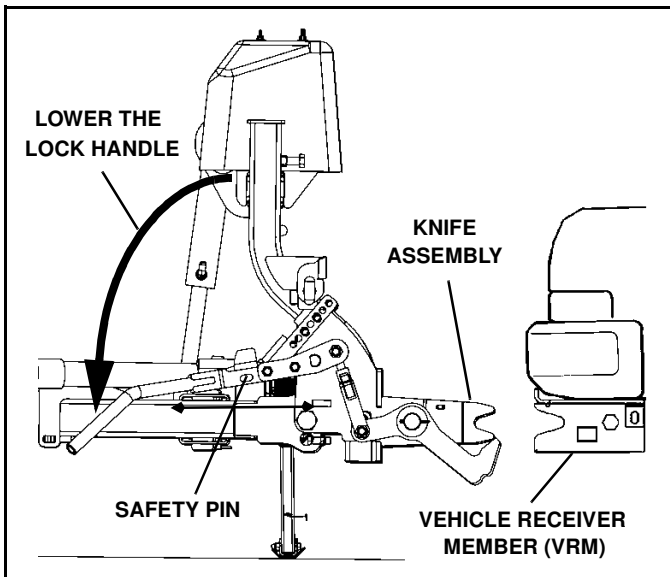

Figure 1-17
19. Release the lock handle safety pin and lower the lock handle fully. (See Figure 1-17).
21. Drive truck up to plow and engage the plow knife assembly with the VRM on the truck. (See Figure 1-17).